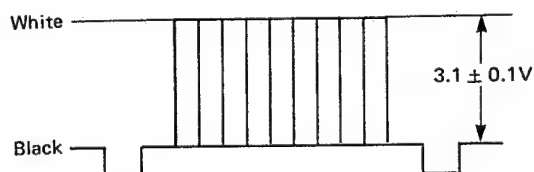

Figure 12
5. Adjust Sub contrast control (R302) for $3.1V_{B-W}$ on oscilloscope shown in figure 12.